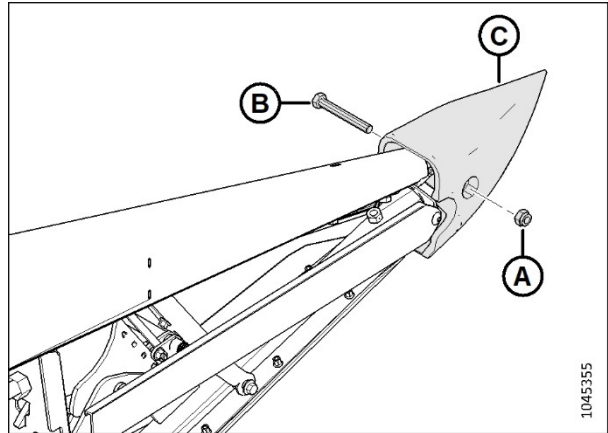

**Figure 2: Identifying Left and Right Assemblies – Viewed from Behind**
1. Ensure you are installing the new deflector on the correct divider assembly. Refer to **Figure 2** for a comparison.
- Left deflector kit (A) (MD #360939)
- Right deflector kit (B) (MD #360940)
- Left divider assembly (C)
- Right divider assembly (D)